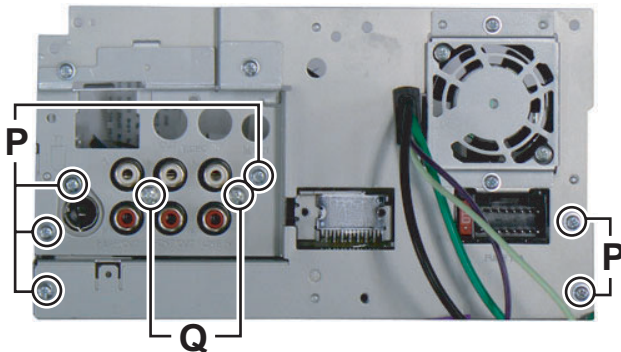

Fig.14
- (3) Remove the six screws **P** and two screws **Q** attaching the Rear panel. (Se Fig.14)